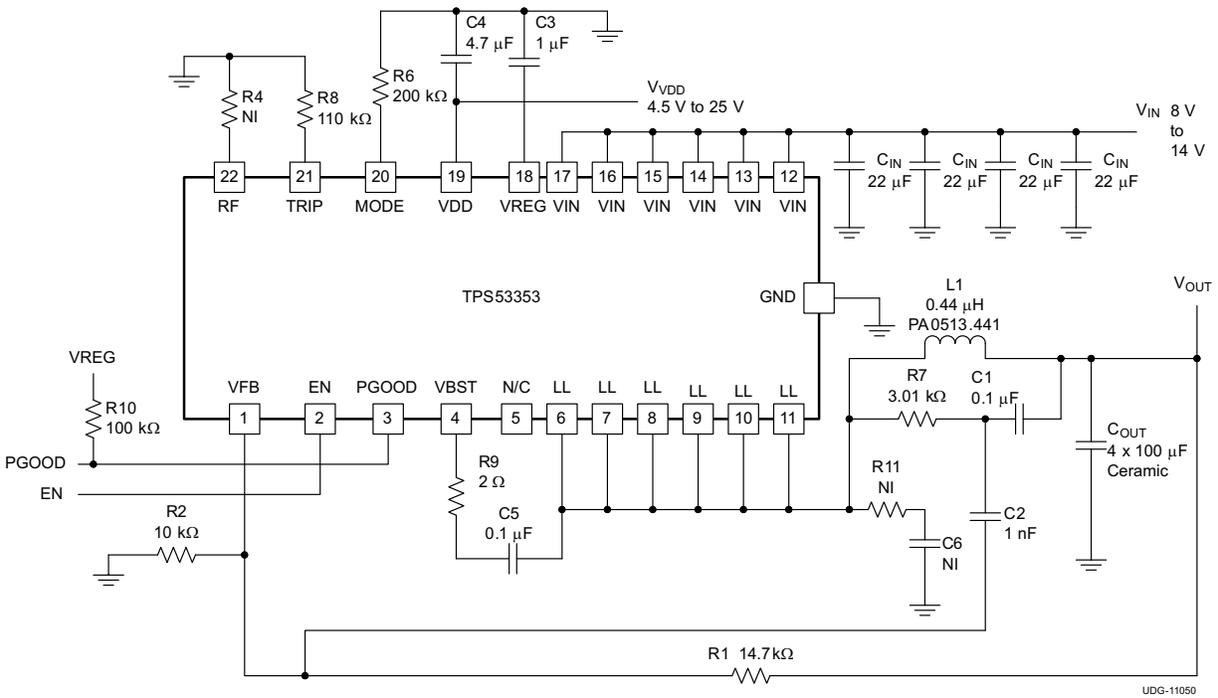

图 8-4. Typical Application Circuit Diagram With Ceramic Output Capacitors
When a ceramic output capacitor is used, the stability criteria in 方程式 6 cannot be satisfied. The ripple injection approach as shown in 图 8-4 is implemented to increase the ripple on the VFB pin and make the system stable. In addition to the selections made using Steps 1 through Step 5 in # 8.2.2.1, the ripple injection components must be selected. The C2 value can be fixed at 1 nF. The value of C1 can be selected from 10 nF to 200 nF.
- Connect the ripple injection V_{OUT} signal (V_{OUT} side of the C1 capacitor in 图 8-4) from the terminal of ceramic output capacitor. The AC coupling capacitor (C2 in 图 8-4) should be placed near the device, and R7 and C1 can be placed near the power stage.